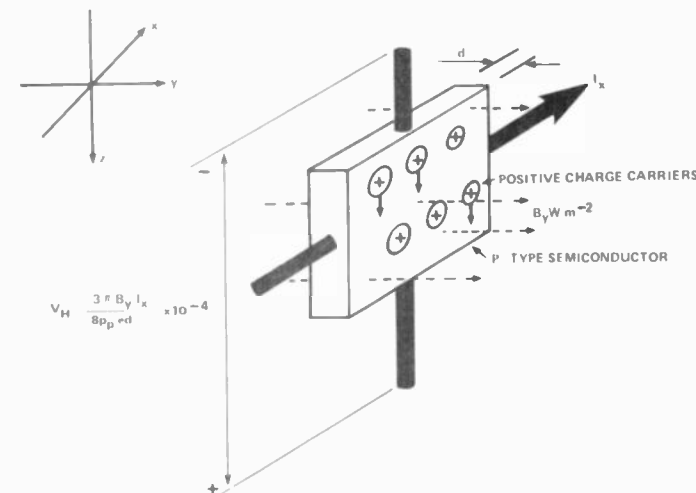

Figure 1. Result of applying a magnetic field to a current-carrying semiconductor — the Hall effect
OF ALL THE EFFECTS depending on the influence of a magnetic field on semiconductor charge carriers, the best known is probably the Hall effect. Edwin Herbert Hall (1855-1938), an American physicist, observed the result of applying a magnetic field to a semiconductor, through which he passed a current at right angles to the field. The arrangement is shown in Fig. 1.
In Fig. 1, a magnetic field of $B \text{ Wm}^{-2}$ (webers per square metre) in the Y-axis acting on a current (I) along the X-axis deflects 'holes' along the Z-axis to the bottom of the P-type semiconductor. Holes (vacant atomic positions in the crystal lattice) are the majority charge carriers in a P-type semiconductor. In N-type, the majority charge carriers, electrons, would be deflected to the bottom of the semiconductor.